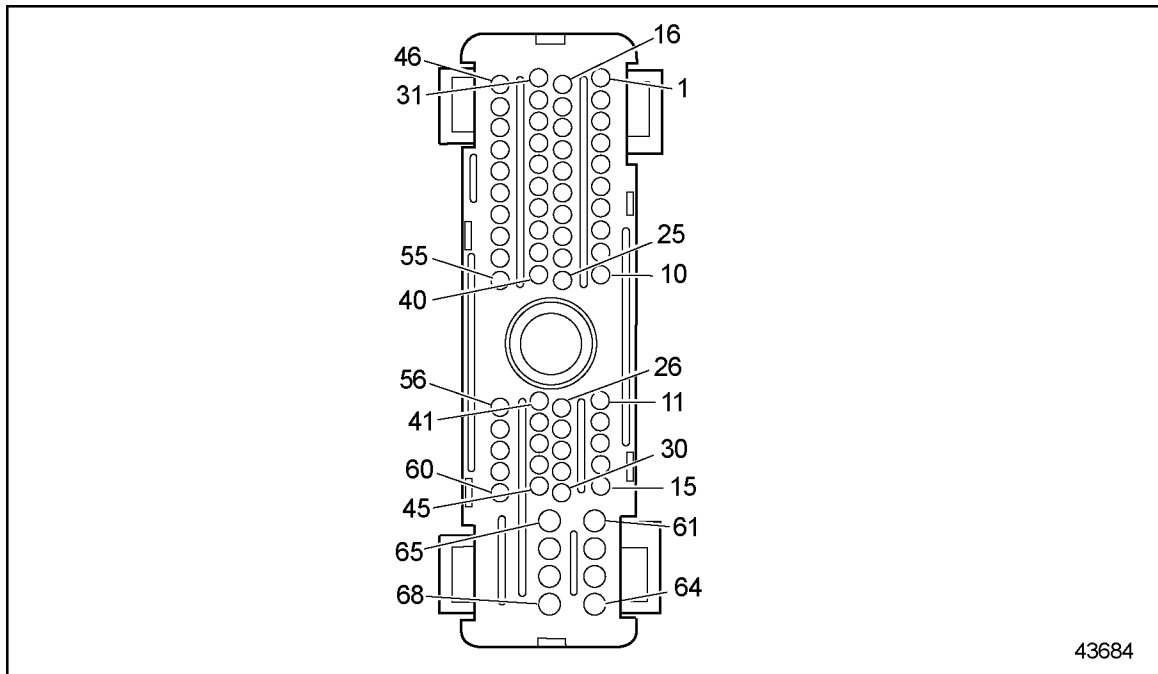

Figure 19-12 ECM/ECU Vehicle Harness Connector
4. Measure resistance between cavity V-56 and V-57 of the vehicle interface harness connector. See Figure 19-12.
2. Measure resistance between cavity V-56 and V-57 of the vehicle interface harness connector. See Figure 19-12.
1. Measure resistance between cavity V-15 and V-57. Measure again between cavity V-15 and V-56. See Figure 19-12.